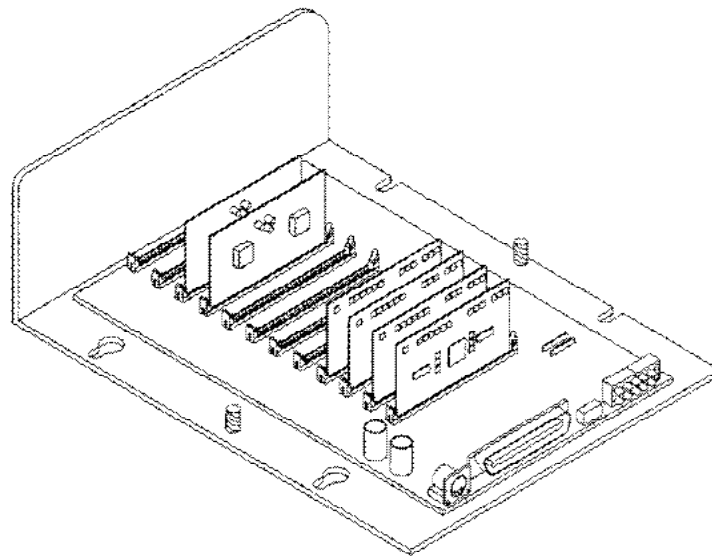

Figure 11. EDAC Configures for Four Ports with Relays
8. Repeat steps 2-7 for all port and relay cards that you are installing. Refer to Figure 11 for an example of 4-port installation with relays.